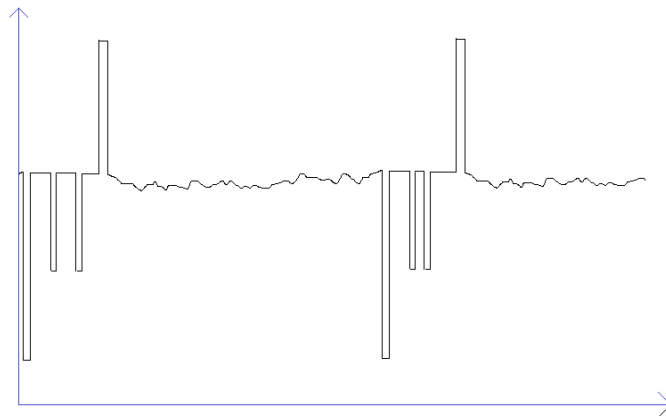

Figure 6, Atlas composite signal example. Multiple sync pulses visible.
3. Adjust the video input data offset, data gain, sampling frequency and number of samples until the signal can be seen as in Figure 6. The video will move around before the composite sync has been detected.
4. Identify the sync pulse in the video. In Figure 6, the sync is seen pointing upwards. The easiest way to identify the sync signal is to locate the azimuth bars. The azimuth information is negative in regards to the sync pulse.